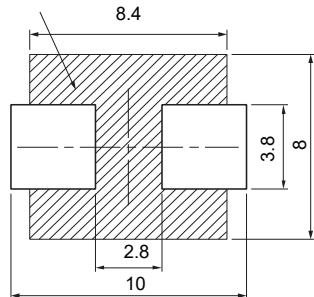

Fig.1
- Do not form a pattern, via, etc., on the counter to the bottom of the inductor. (MC series) \* Fig. 1